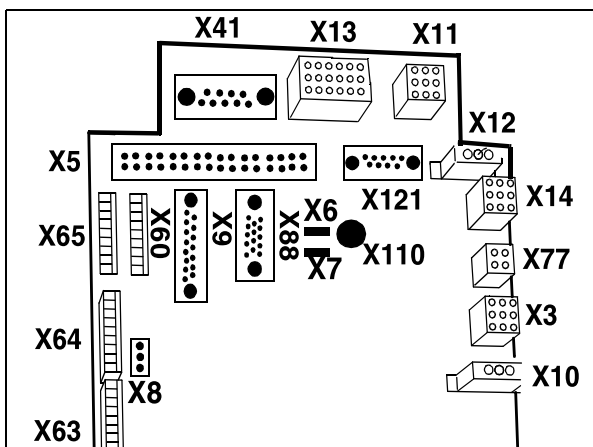

Fig. 33: D160 "E1" Part No.: 59 58 906
- With the D160 "E2" with the Part No.: 56 58 906 (Fig. 33 / p. 46):